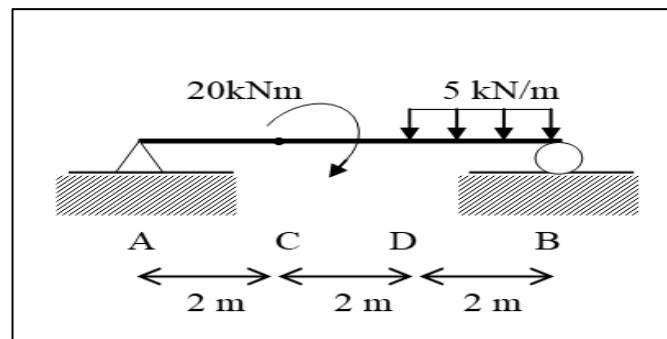

Figure B3(b)
- CLO2 (b) Figure B3(b) show a simply supported beam subjected to moment and uniformly distributed load. Calculate reaction force for each support.